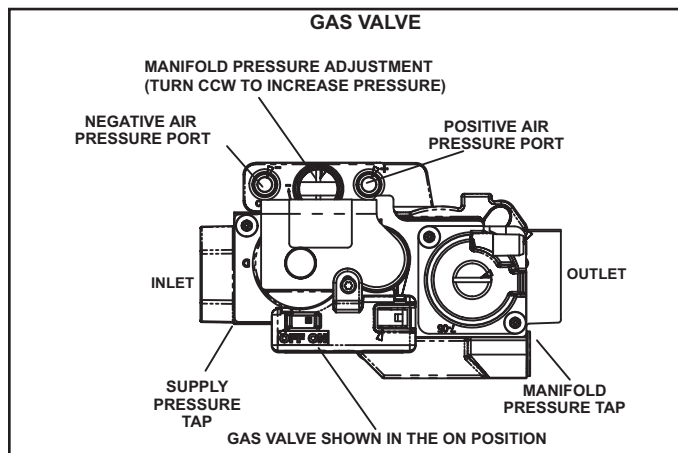

FIGURE 26
Gas Valve Operation (Figure 26)
- 6 - Move gas valve switch to OFF position. Do not force. See Figure 26.
- 8 - Move gas valve switch to ON position. Do not force. See Figure 26.
- 4 - Move gas valve switch to **OFF** position. Do not force. See Figure 26.